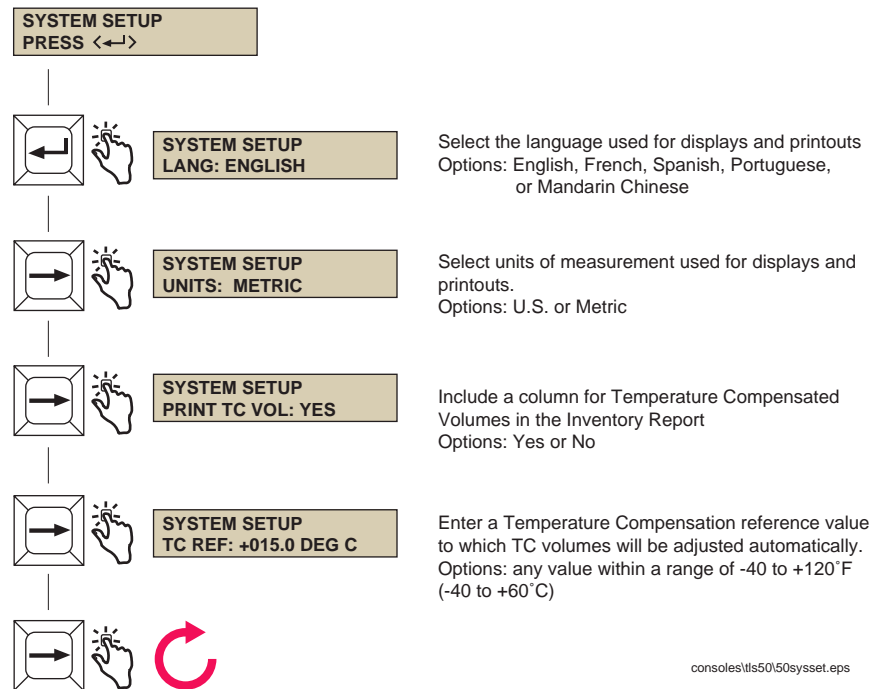

Figure 6. System Setup Menu
From the System Setup display, scroll through the system setup options. Make changes as required following options shown in Figure 6.
3. If the system setup parameter PRINT TC VOL (Figure 6 on page 10) is set to No, the TC VOLUME and TEMP columns will not print.